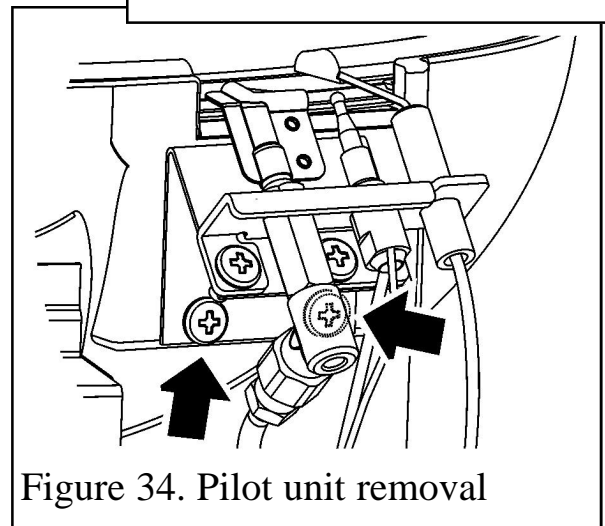

Figure 34. Pilot unit removal
4. Remove the two screws that secure the pilot bracket to the burner (See figure 34).